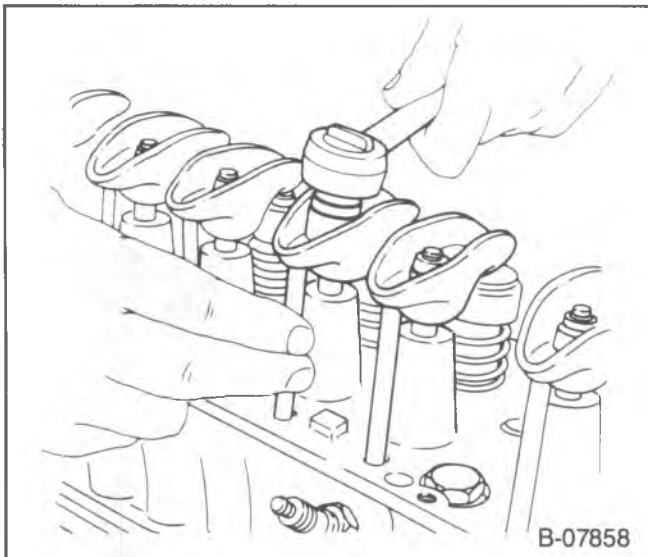

Figure 4—Adjusting The Valves
- c. Back out the adjusting nut until lash is felt at the pushrod, then turn in the adjusting nut until all lash is removed. This can be determined by rotating the pushrod while turning the adjusting nut (figure 4). When play has been removed, turn the adjusting nut in one full additional turn (to center the lifter plunger).